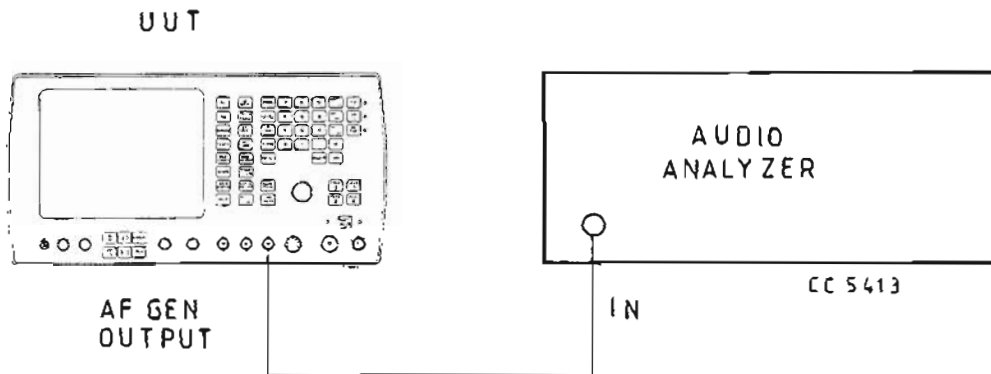

Fig 16 Test equipment connections for a.f. generator residual noise spurious signals performance checks
- (1) Connect the equipment as shown in Fig. 16.
- (2) Set the u.u.t. to AF GEN, frequency 9370 Hz, level 2 V.
- (3) Set the audio analyser to 9370 Hz, SINAD, 30 kHz low-pass filter. All other filters off.
- (4) Check that the audio analyser reads greater than 27 dB.